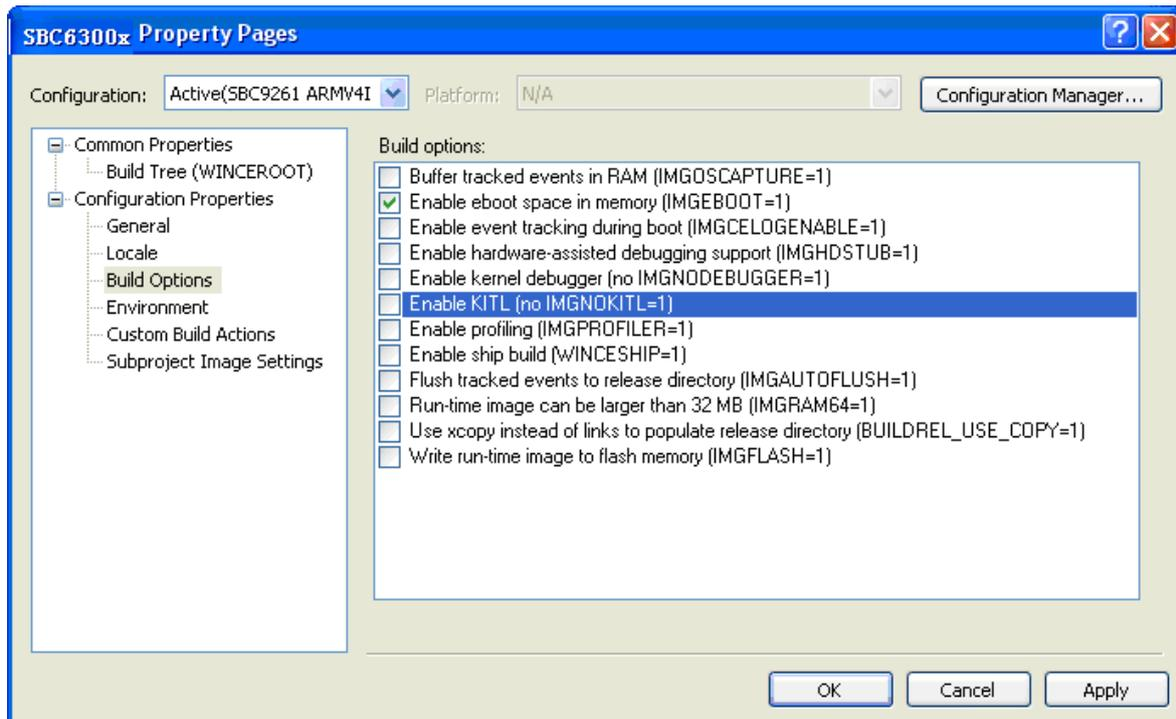

Figure 6.14
15. Tick Enable eboot space in memory(IMAGE=1) in Build Options, as shown in Figure 6.14, click OK to finish the settings of compilation.